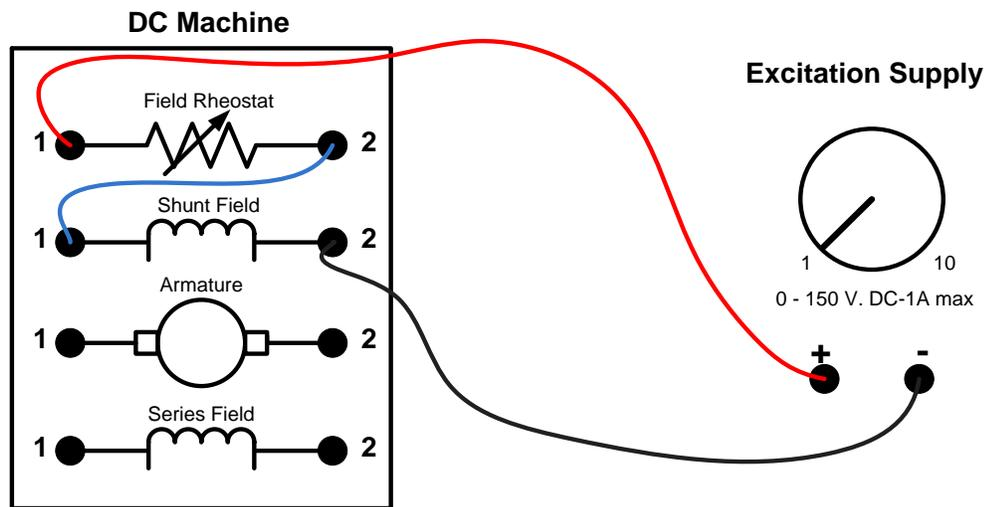

Figure 2
- Connect the Field Rheostat and the Shunt Field in series (Figure 2).
- Connect the excitation supply to the “Field Windings” (Figure 2).
- Rotate the Excitation Supply knob (Figure 2) to the full counter-clockwise position (off).